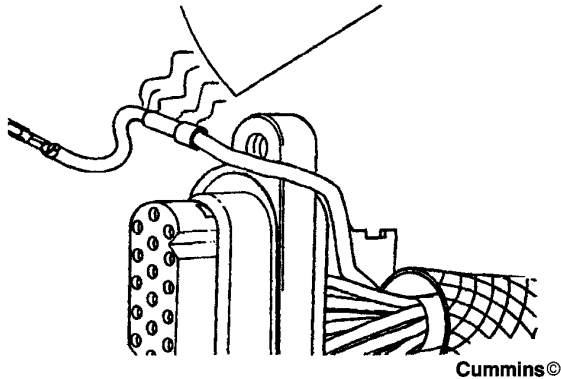

Figure 73 Heat Shrink Tubing
8. Use a heat gun or an open flame to heat the shrink tubing. The tubing will shrink and make the connection waterproof (Figure 73).